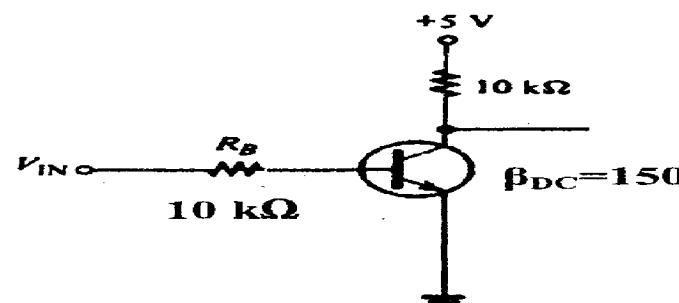

Fig. 2a
2. a-Determine $I_{C(sat)}$ for the transistor in Figure 2a. What is the value of I_B necessary to produce saturation? What minimum value of V_{IN} is necessary for saturation?